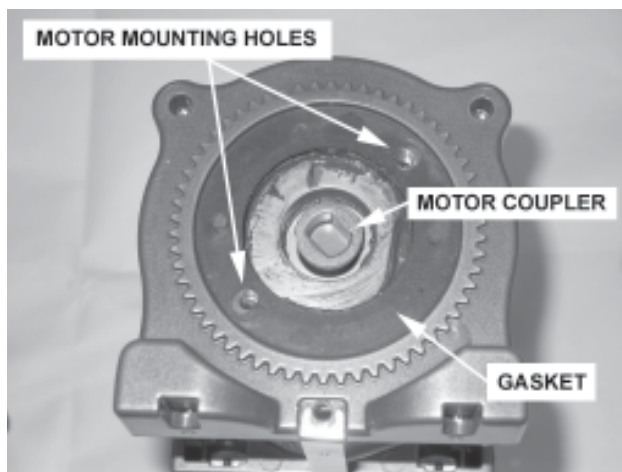
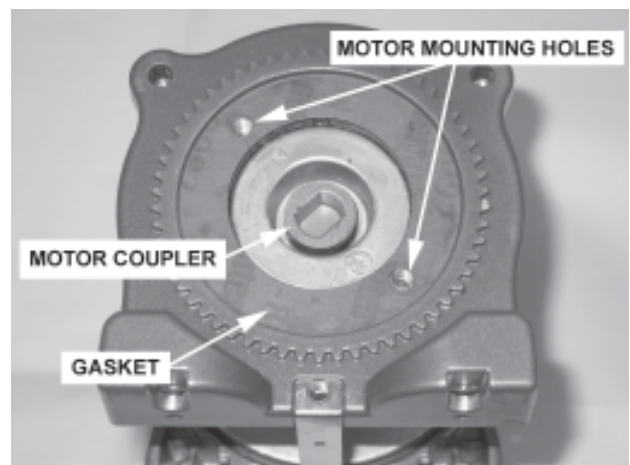

Figure 2
Figure 3
4. Lift motor assembly off Drum Support. Rotate the gasket and Motor Coupler 90 degrees, see **Figure 2** and **Figure 3**.